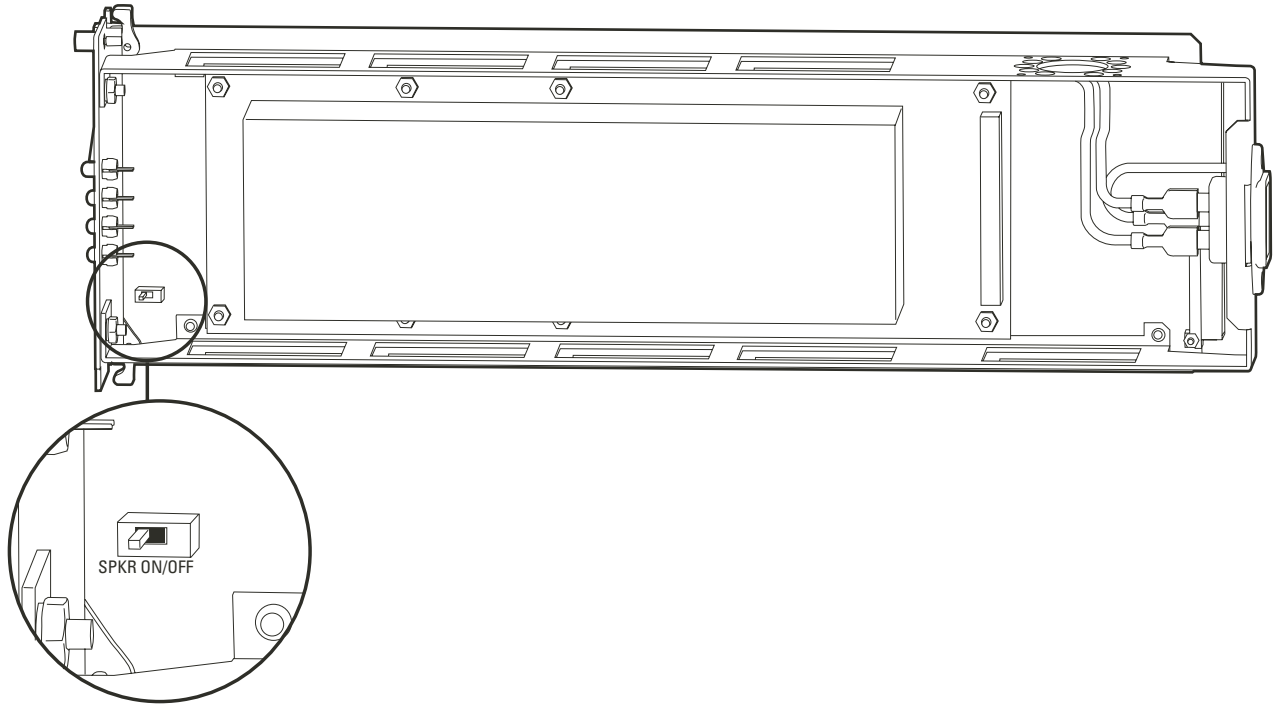

Figure 20. Power Supply Alarm Speaker Switch
3. Move the speaker switch to the OFF position (refer to Figure 20).